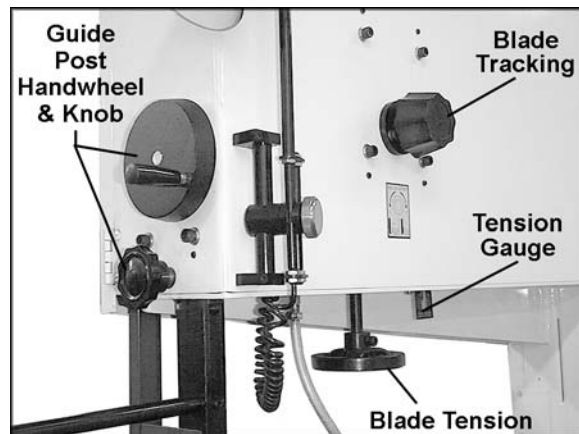
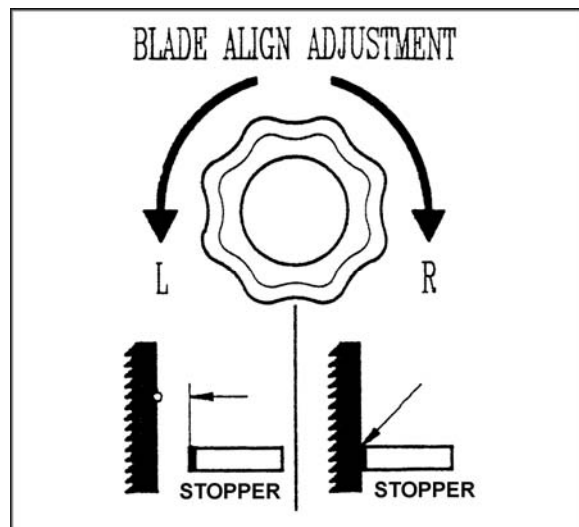

Figure 6
Figure 7
4. Loosen tension on the blade by turning the tension handwheel (Figure 6) to the left.
Rotate blade tension handwheel to the right to increase tension on the blade, to the left to decrease tension on the blade. Initially, set the blade tension to correspond to the width of your blade, as indicated on the tension gauge (Figure 6). As you become familiar with the saw, you may find it necessary to change the blade tension from the initial setting, depending on the width of the blade as well as the material being worked.
6. If the blade does not track properly, rotate the blade tracking knob (Figure 6) clockwise to move the blade toward the front of the wheel (as viewed from the front of the saw) or counterclockwise to move the blade toward the rear of the wheel. NOTE: This will also move the blade away from or toward the stoppers on the blade guide assemblies, as shown in Figure 7.
For effective cutting and for safety's sake, there should be a minimum amount of space between the top of the workpiece and the bottom of the blade guides. Loosen the locking knob (see Figure 6) and rotate the handwheel (Figure 6) to raise or lower the guide post so that the guides clear the workpiece by about $3/16"$.